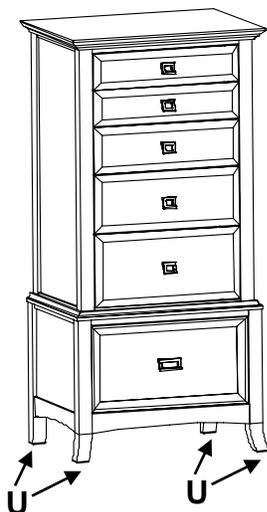

Fig. 1
1. Place the chest at its final destination. Rotate the Adjustable Glides (U) on the bottoms of the legs until the unit is level. See Figure 1.